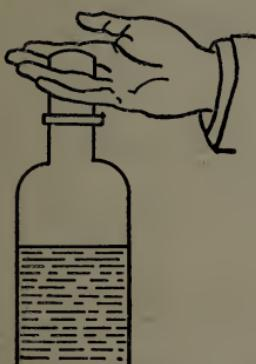
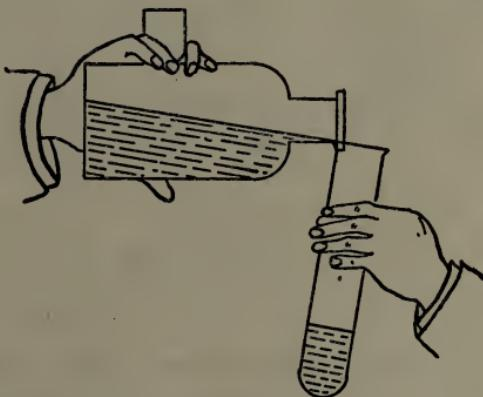
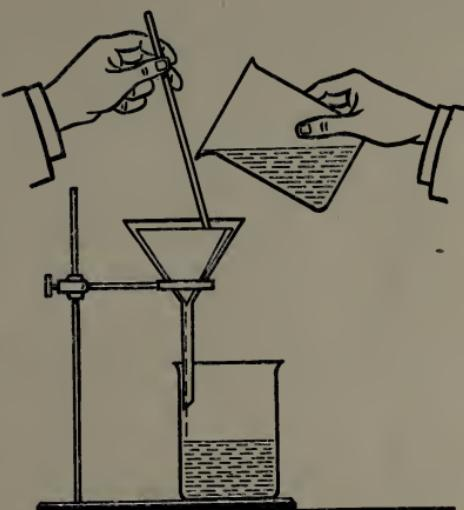

FIG. 1.
FIG. 2.
FIG. 5.
should be placed against the side in such a manner that the liquid will flow quietly down the rod and drop into the receiver without spattering (Fig. 5).
2. Pouring from a Bottle.—(a) In removing a stopper from a bottle take the stopper between the fingers as shown in Fig. 1. Hold the stopper between the fingers (Fig. 2) until you are ready to close the bottle. *Never lay a stopper on the table.*
(b) To pour a liquid from a bottle use a glass rod as in Fig. 5 or allow the neck of the bottle to touch lightly the side of the receiving vessel (Fig. 2). This precaution is especially important in the handling of acids since it prevents the acid from running back on the outside of the bottle.
of the funnel and should never be filled entirely full of the material to be filtered. Why? Fig. 5 shows the correct method of filtering. Notice that the liquid runs quietly along the rod, down the side of the funnel and the beaker. It should not be allowed to fall in drops in the center of a beaker, or to spatter. The liquid which runs through the paper is called the *filtrate*; the solid on the paper is the *residue* or *precipitate*.